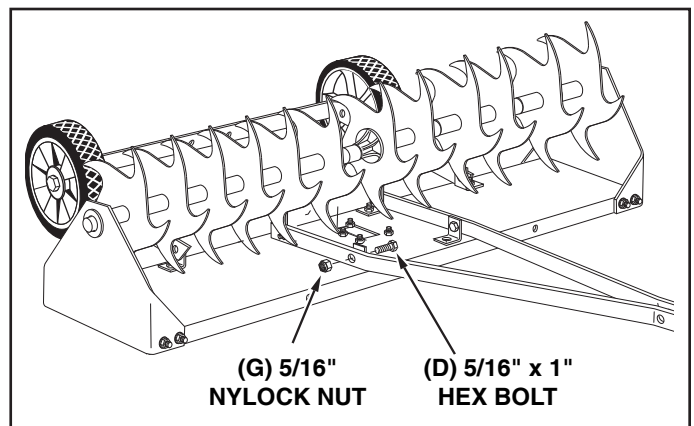

FIGURE 12 FRONT VIEW
- Fasten the hitch mount arms to the outside of the angle brackets at the front of the tray using two 5/16" x 1" hex bolts (D) and 5/16" nylock nuts (G). **Tighten** and then loosen the nuts 1/4 turn. See figure 12.